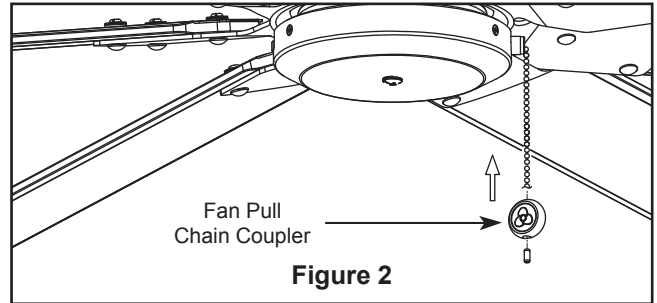

Figure 2
2. Install the fan pull chain coupler. (Figure 2)